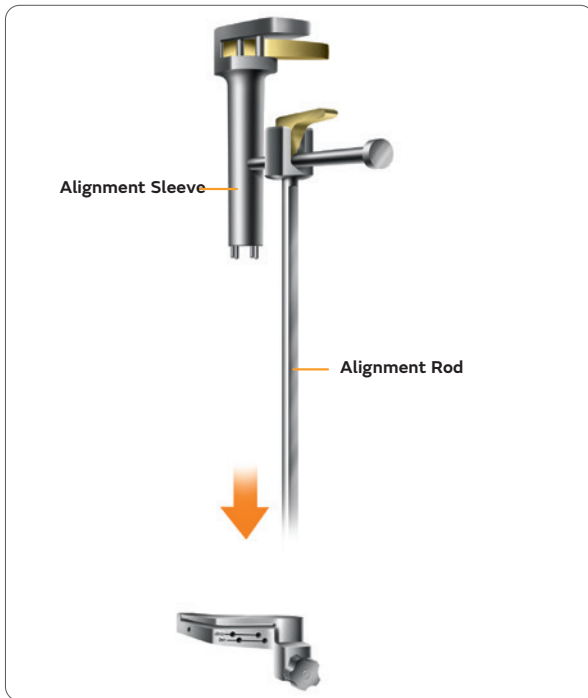

Figure 1
1. Insert the external rod of the Intramedullary tibial alignment guide through the hole on the correct left or right tibial cutting block and lock the cam (**Figure 1**).